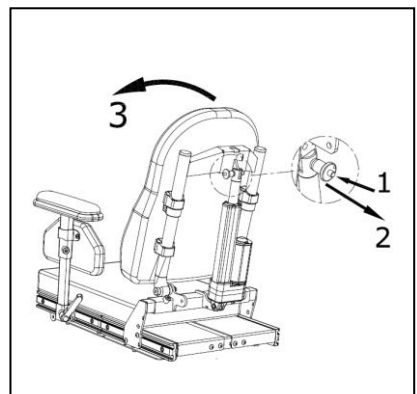

Figure 3.6
1. Remove the quick release axle (1) from the upper position (2) (fig 3.6).
2. Fold down the backrest (3) (fig 3.6).